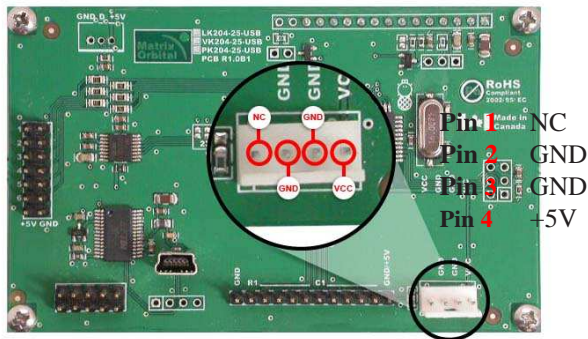

Figure 10: Alternate Power Connector
The *USB Header* provides USB connector for communication and power of the display. An alternate power option for the display can be seen in *figure 10*.
- First, you will want to make sure that you are using the correct power connector. Standard floppy drive power cables from your PC power supply will fit on the Power/Data Connector and do have the correct pin out as can be seen in *figure 10 on page 8*.